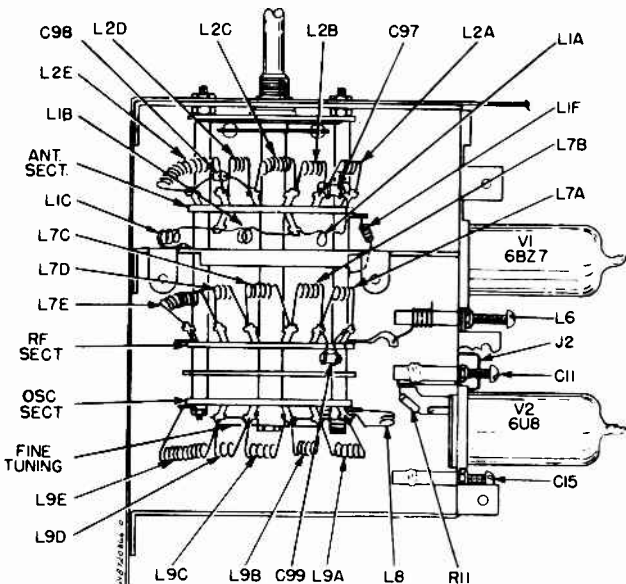
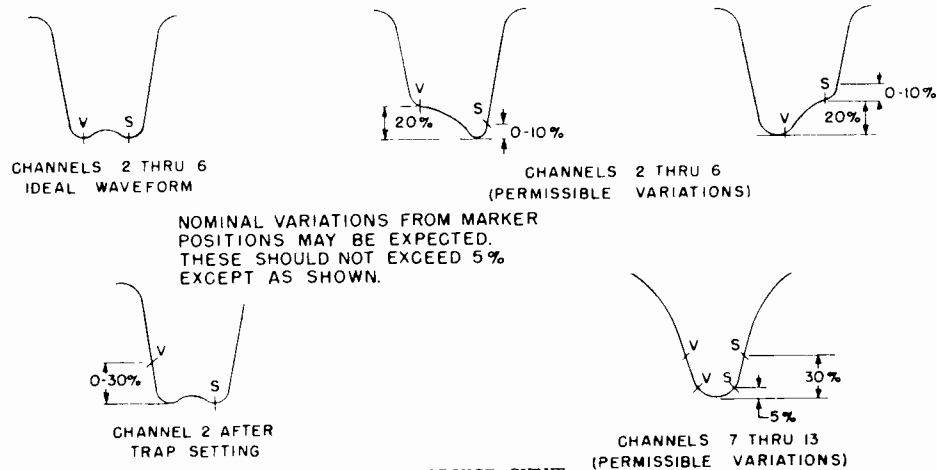

FIGURE 7. ANTENNA, RF & OSC LOCATIONS
FIGURE 8. RF RESPONSE CURVE
11. Move the generator and capacitor to jack J-2. See Figure 7. Short out R-11 (4700) located between the jack and the mixer grid.
4. Connect the oscilloscope, through a decoupling resistor of 47Kohms to jack J-2 in the grid circuit of the mixer tube V-2B. See Figure 7.
6. Refer to Figure 7 for the location of the trimmers and coils. The chart listed above gives the picture and sound carrier frequencies.
7. The antenna coils are tuned to the video carrier side and the RF coils are tuned to the sound carrier side. Figure 8 shows the shape of the curve which should appear on the oscilloscope.
10. Adjust ceramic trimmer, C-11, so that the video and sound markers appear on the response curve within the limits shown in Figure 8.
11. Move the station selector switch to channel 13, and set the generator to the center frequency of the channel (213 mc). Adjust the screw in coil L-6 for the proper response on channel 13 (see Figure 8).
13. Check channels 13 through 7 and compare the curves in Figure 8. It is important that the antenna primary coil (L-1F) is not changed. The wave shapes maybe narrowed by reducing the inductance in the coil but the signal-to-noise ratio will be seriously affected.
15. Compress or spread the channel 6 antenna coil, L-2E, and RF coil, L-7E, to obtain the proper response. See Figure 7 for coil locations and Figure 8 for response curve. The antenna coil affects the video carrier and the RF coil affects the sound carrier.
3. Refer to Figure 7 for the locations of the trimmers and coils. The sound carrier frequencies may be obtained from the preceding chart.